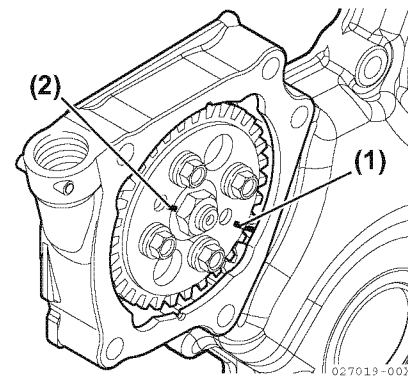

Figure 7-26
3. Put on the timing grid sticker on the drive gear align the timing mark on the block then loosen the bolts fastening the fuel injection pump drive gear to the pump flange. (**Figure 7-26**)